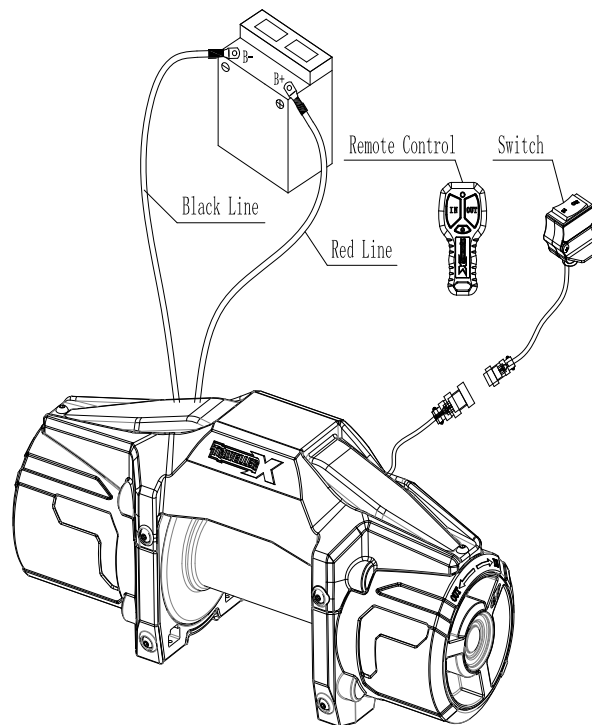

Fig. 1
**WARNING:** This winch must be mounted with the cable in an under wound direction. Improper mounting could damage the winch and void the warranty. Connect the red wire to the positive terminal and the black wire to the negative terminal of the battery.(See Fig. 1).